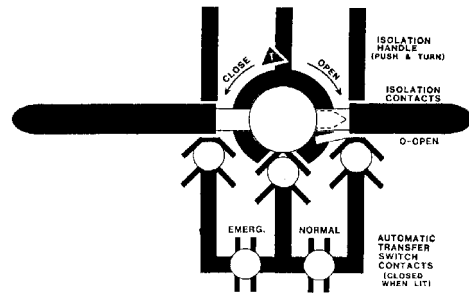
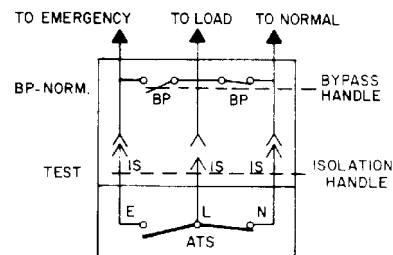
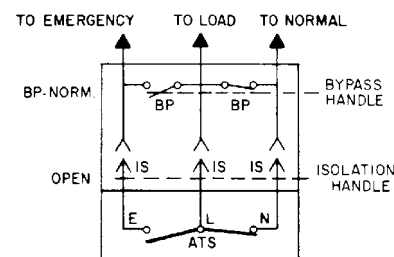

Figure 3-4. Isolation Handle.
Figure 3-5. Isolate to Test.
Figure 3-6. Isolate to Open.
2. Isolate automatic transfer switch as follows. Refer to Figure 3-4, Figure 3-5, and Figure 3-6.